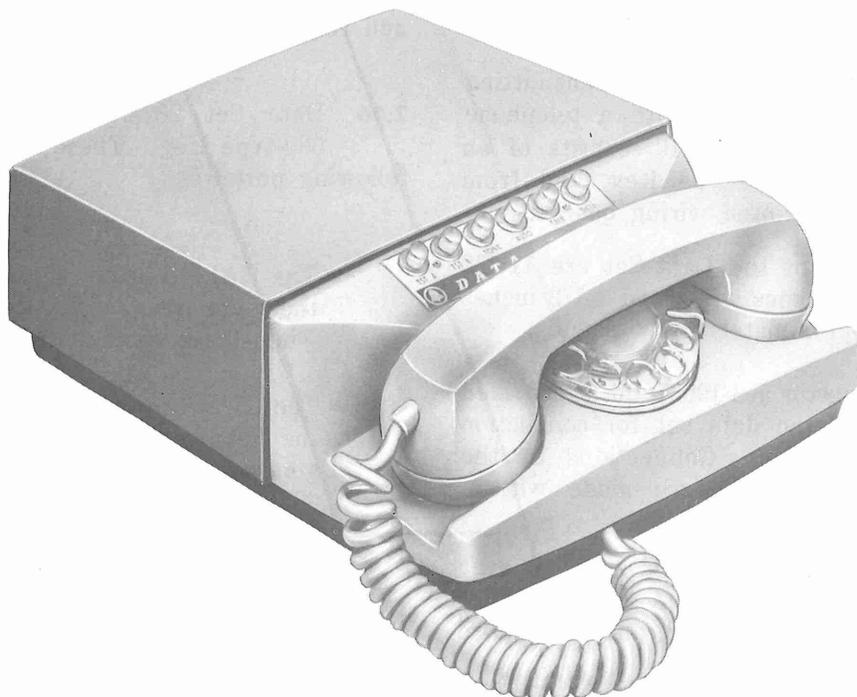

Fig. 1—Data Set 202E Type
**2.01** Data Set 202E-type (Fig. 1) is a transmitting data terminal integrated with a telephone set in a 2-tone gray housing. It consists of an 11C Apparatus Unit, a 589-type Key, and from two to seven modular printed wiring boards.